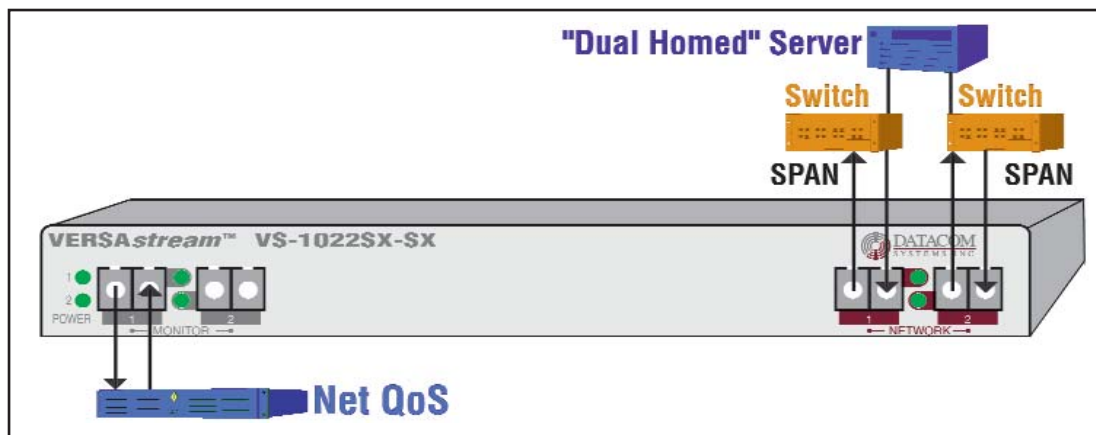

Figure 13 - VS-1022SX-SX Hardware Installation
### *Application & Hardware Installation* — Figure 13
**‘Dual-Homed’ Server Application** — shown in **Figure 13**, focuses on monitoring and analysis of the “Dual Homed” Server Distribution Network. This VS-1022SX-SX is similar to other VERSAstream™ SPAN series installations:
To connect the VERSAstream™ VS-1022SX-SX SPAN Series aggregator/regenerator, refer to **Figure 13** and follow these steps: